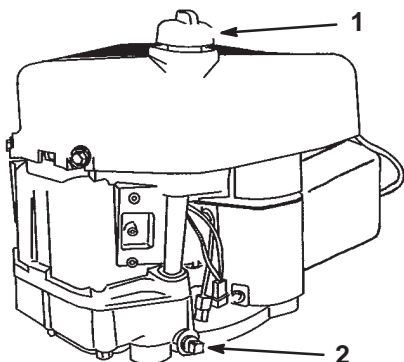

Figure 16
7. Clean around the oil dipstick (Fig. 16) so that dirt cannot fall into the fill hole and damage the engine.
8. Place a drain pan below the oil drain plug and remove it (Fig. 16).